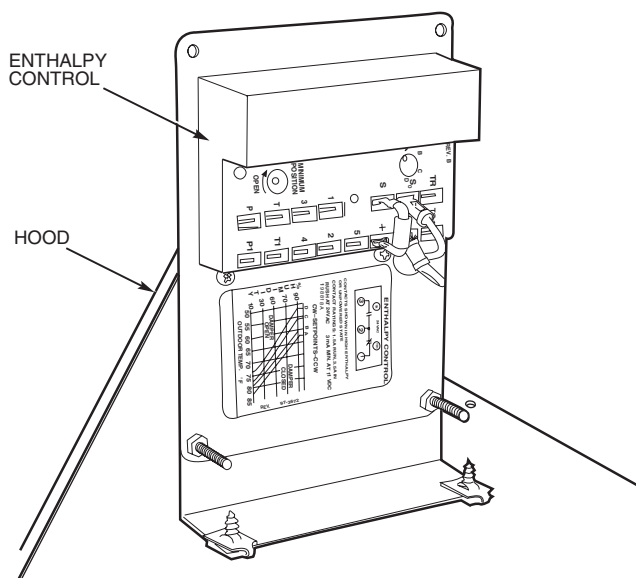

Fig. 28 — Outdoor-Air Thermostat/Enthalpy Control Installation
8. Remove tape from outdoor-air thermostat (OAT). Fasten OAT to inside of hood using screws and speed clips provided. See Fig. 28. Make sure OAT terminals are positioned up.
11. Place knob supplied with economizer on OAT. See Fig. 28. Set for 3° F below indoor room thermostat setting. If accessory enthalpy control (EC) is used in place of OAT, see instructions shipped with EC for installation and adjustment. See Fig. 28.